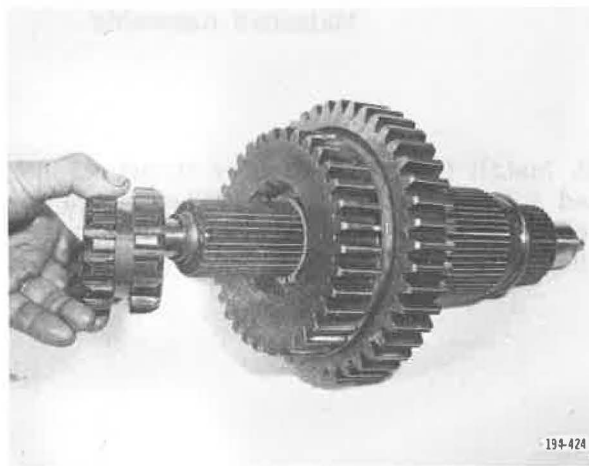

Figure 5-638. Installing Fourth and Fifth Speed Sliding Clutch
11. Install fourth and fifth speed gear sliding clutch. See Figure 5-638. Install spigot ball bearing on front of shaft, then install bearing retaining snap ring.